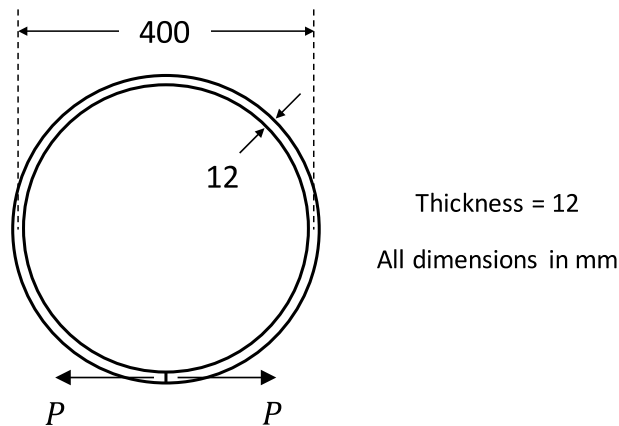

Figure Q6
- (b) The split ring shown in Figure Q6 has a diameter of 400mm and 12mm x 12mm square uniform cross-section. The ring is subjected to equal opposing forces, P , of 125N applied tangentially at the split.